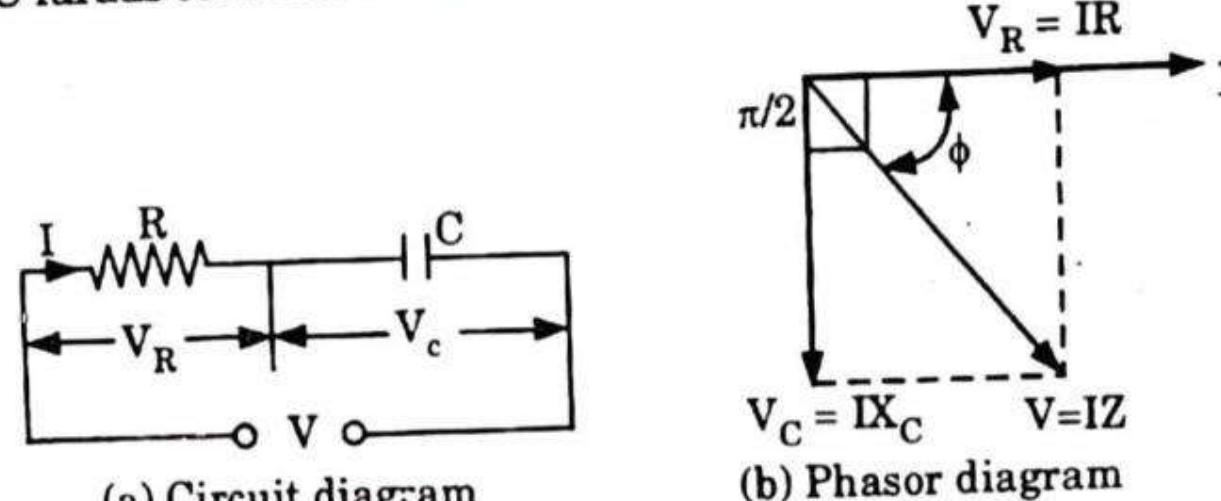

Fig. 2.14.1
1. Consider an AC circuit consisting of resistance of R ohms and capacitance of C farads connected in series, as shown in Fig. 2.14.1(a).